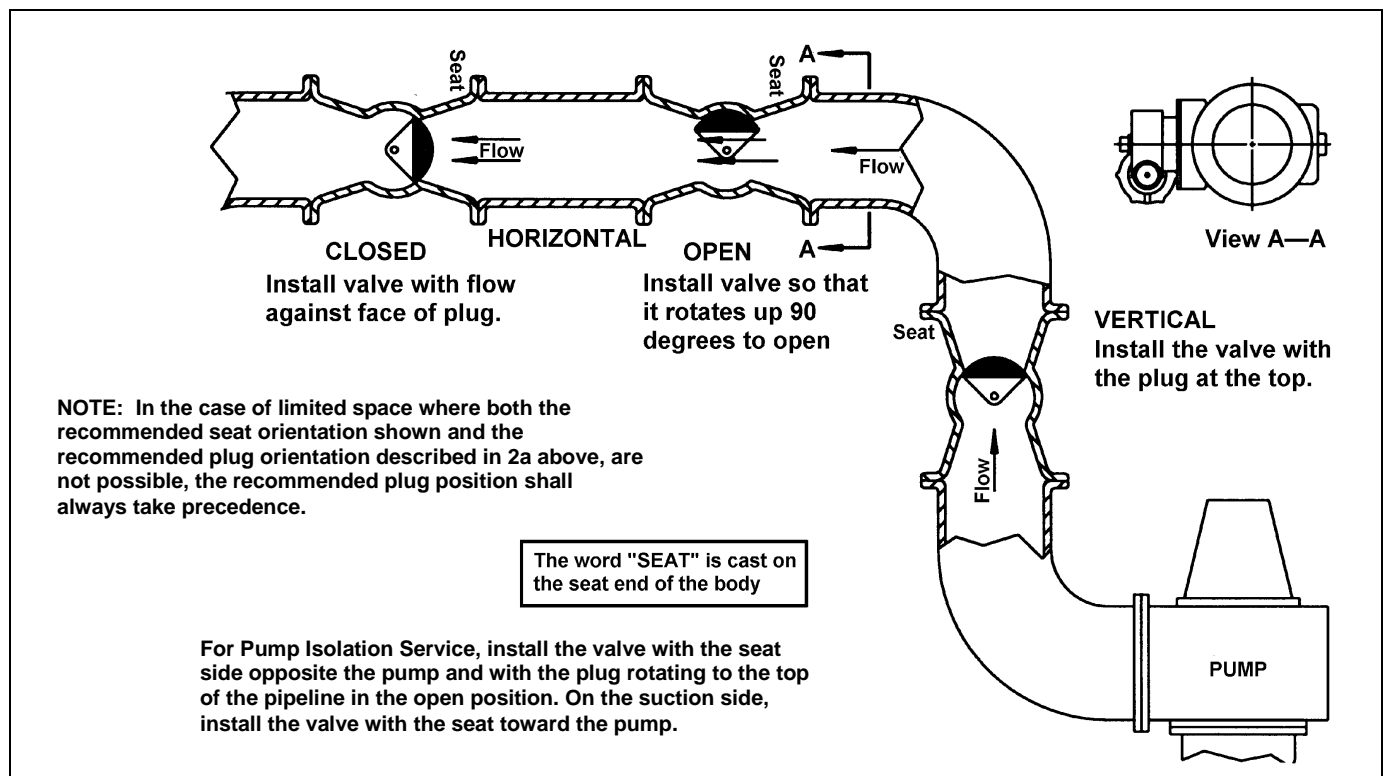

Figure 2—Liquids with Suspended Solids
2. Install the valve as shown in Figure 2.